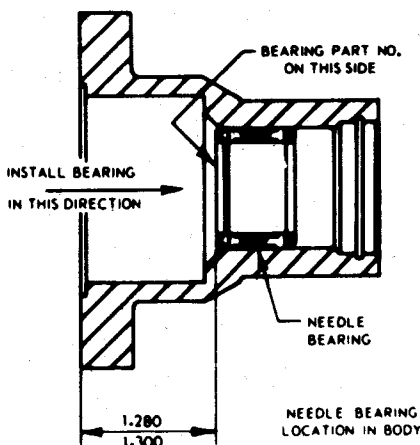

Fig. 29—When installing needle bearing in upper cover, press bearing into dimension (inches) shown.
If needle bearing (30) must be renewed, press same out toward flanged end of cover. Press new bearing in from flanged end of cover to the dimension shown in Fig. 29. Press only on numbered end of bearing, using a piloted mandrel.